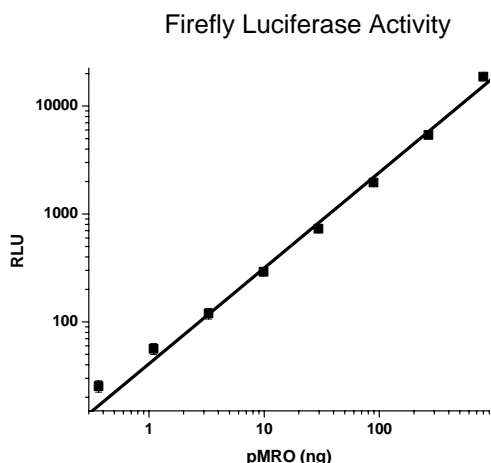

Figure 4a
**Figure 4. Linear relationship between emitted light and amount of luciferase expression vector transfected in HEK293.** HEK 293 cells were plated on a 6-well plate. On the second day, the cells were transfected with different amounts of GeneCopoeia pMRO or pEZX-MT01 miRNA 3' UTR Target Sequence Clone as indicated in the figure. The cells were transferred to a 96-well plate 18 hours after transfection and cultured for another 24 hours. Firefly luciferase assay was then performed on pMRO vector (Fig. 4a) and *Renilla* luciferase assay was performed on pEZX-MT01 vector (Fig. 4b) as described in the procedure.